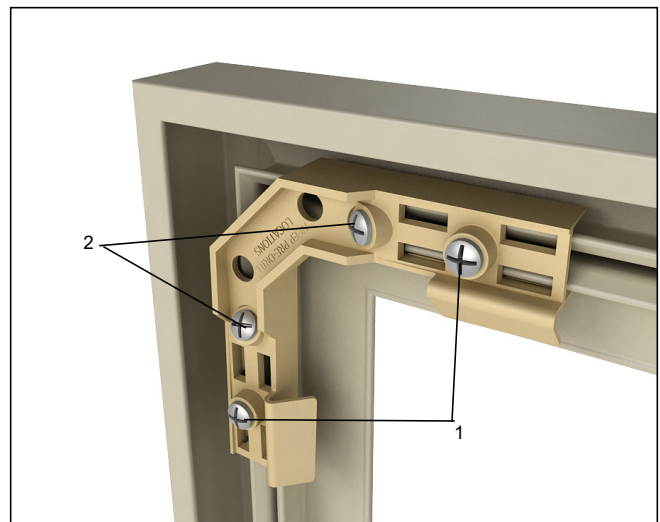

Figure 52
3. Fasten the corner key with included screws. First apply the outside 90° screws (1) followed by the two inside angled screws (2). Fasten until joints are tight. Over tightening may cause screw channel to strip out. See *figure 52*.